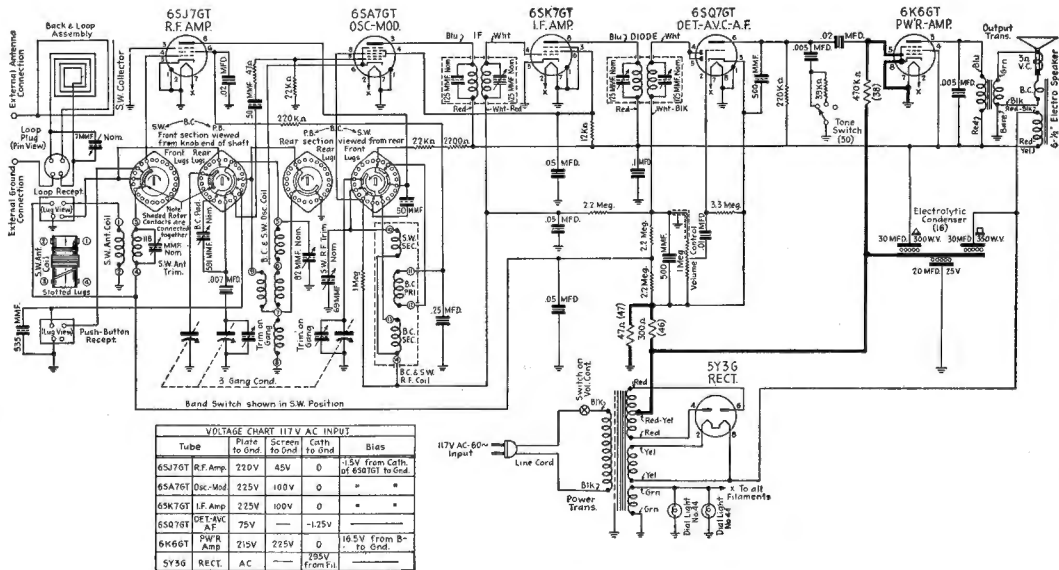

FIG. 10-17.—Schematic diagram of the Motorola Model 61T23 receiver.
The schematic diagram of the Motorola Model 61T23 receiver, shown in Fig. 10-17, is an example of the fixed-bias type of second AF stage. The bias circuit has been indicated by the heavy lines. Note the following conditions: The common terminal of the filter condenser block is connected to the center tap of the high-voltage winding. The cathode of the 6K6-GT second AF tube is connected to the chassis. The grid-load resistor, part number (38), is connected to the negative end of the bias voltage divider, parts numbers (46) and (47). The bias voltage is filtered by the 20-mfd/25-volt condenser section of the electrolytic condenser block (16). And the bias voltage for the second AF tube is indicated in the voltage chart as being measured from *B* minus to ground. Note also the 3-point tone switch (50) in the input circuit of the second AF stage.
4. The receiver of Fig. 10-17 has an open output transformer. If an original replacement is not obtainable, use the universal output transformer chart of Fig. 10-11 for reference and choose (1) the type of transformer that should be used, and (2) the secondary taps that should be used.